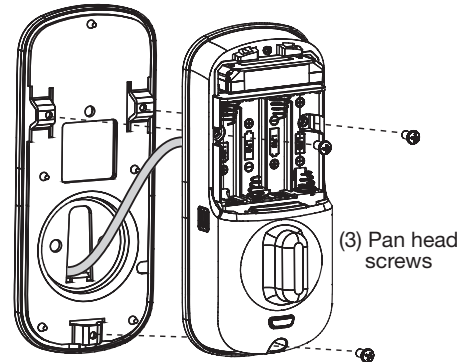

Figure 8
9. Install and secure using (3) M4 x 8mm [8-32 x 5/16"] pan head screws through the inside escutcheon into the mounting plate (Fig. 8).